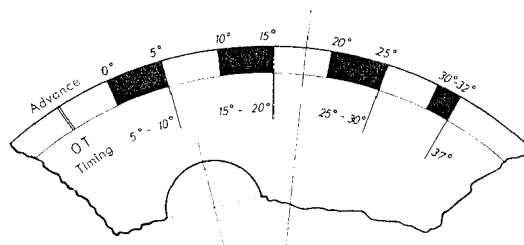

Fig. 47
1. Turn the crankshaft so that the timing (OT) mark is upward.
3. Using a quick drying lacquer, paint black segments as shown in Fig. 47.